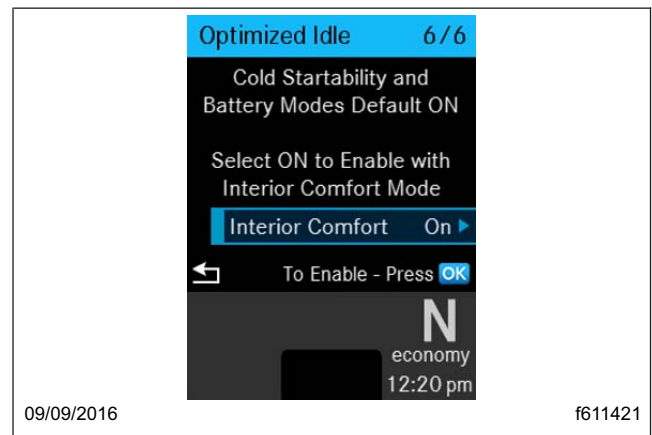

Fig. 11.3, Optimized Idle Mode Selection Screen
6. Press OK on the steering wheel switch pod to view the mode option screen. See Fig. 11.3.